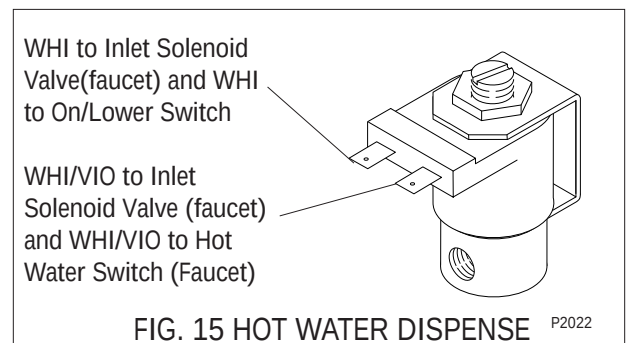

FIG. 15 HOT WATER DISPENSE VALVE WIRING
11. Refer to FIG. 15 when reconnecting the wires.